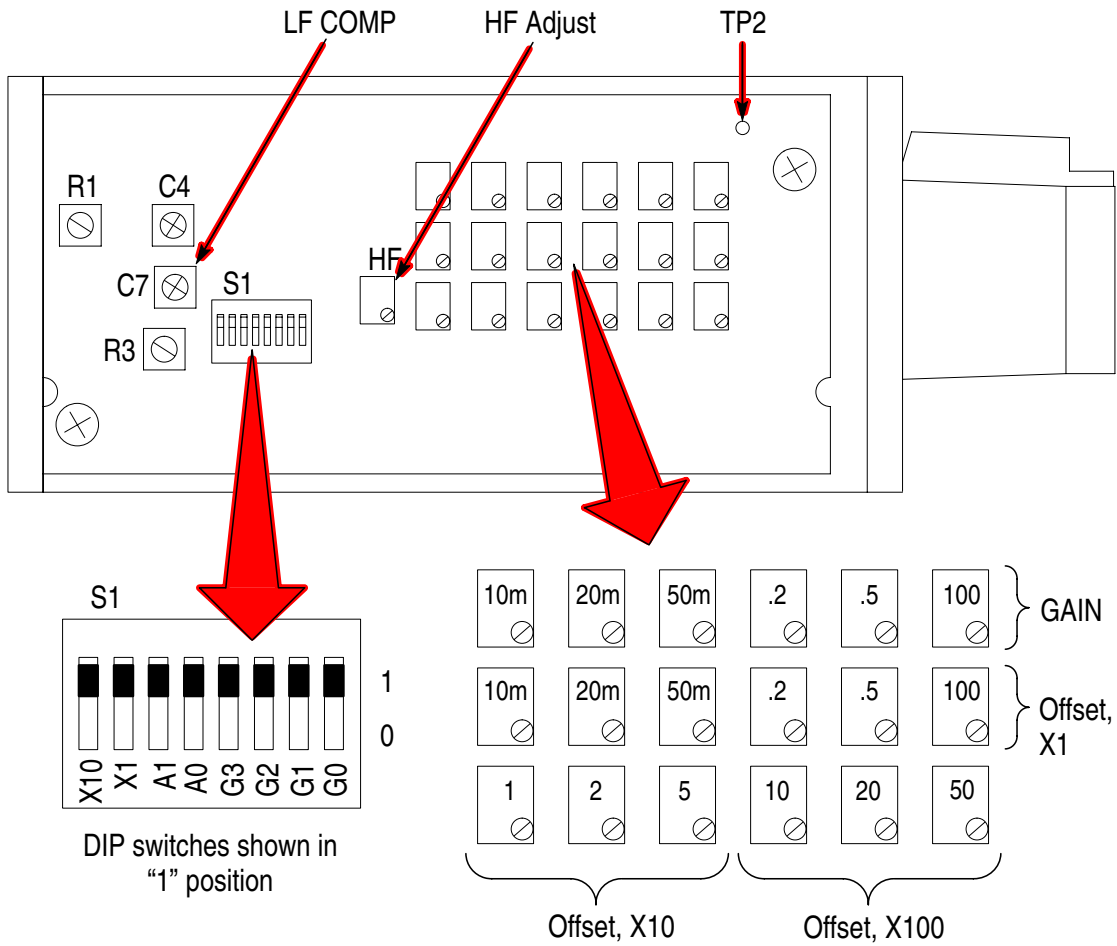

Figure 7: Location adjustments and DIP switches
Figure 7 shows the locations of the adjustments and the DIP switches (S1) that manually set the probe attenuation (gain) range.
2. With the P6339A probe installed on the 1103 power supply, set all the DIP switches to the “0” position. See Figure 7 on page 18.
5. Adjust the LF COMP trimmer, C7 (Figure 7 on page 18), until you see a perfectly flat-top square wave on the display (Figure 9).